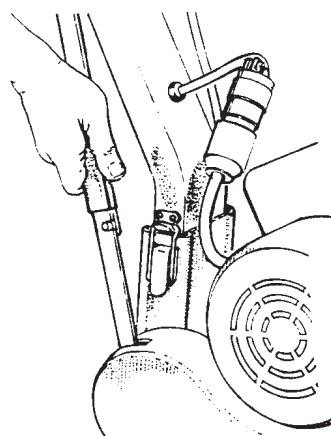

Figure 6
- 2 Install handle and fasten latches. (Figure 6)